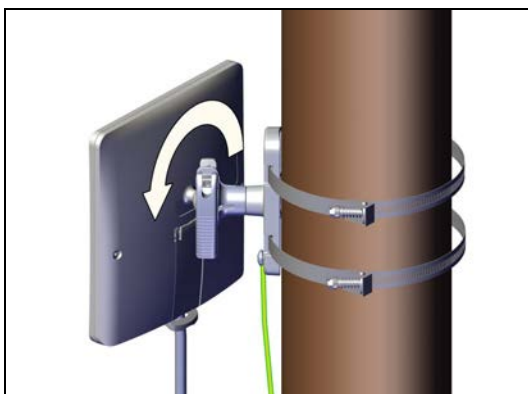

Figure 2-40: Tighten arm on mount: RADWIN 2000 Alpha EMB radio unit
- Once alignment is complete, tighten the arm on the RADWIN 2000 Alpha EMB mounting kit (see Figure 2-40).